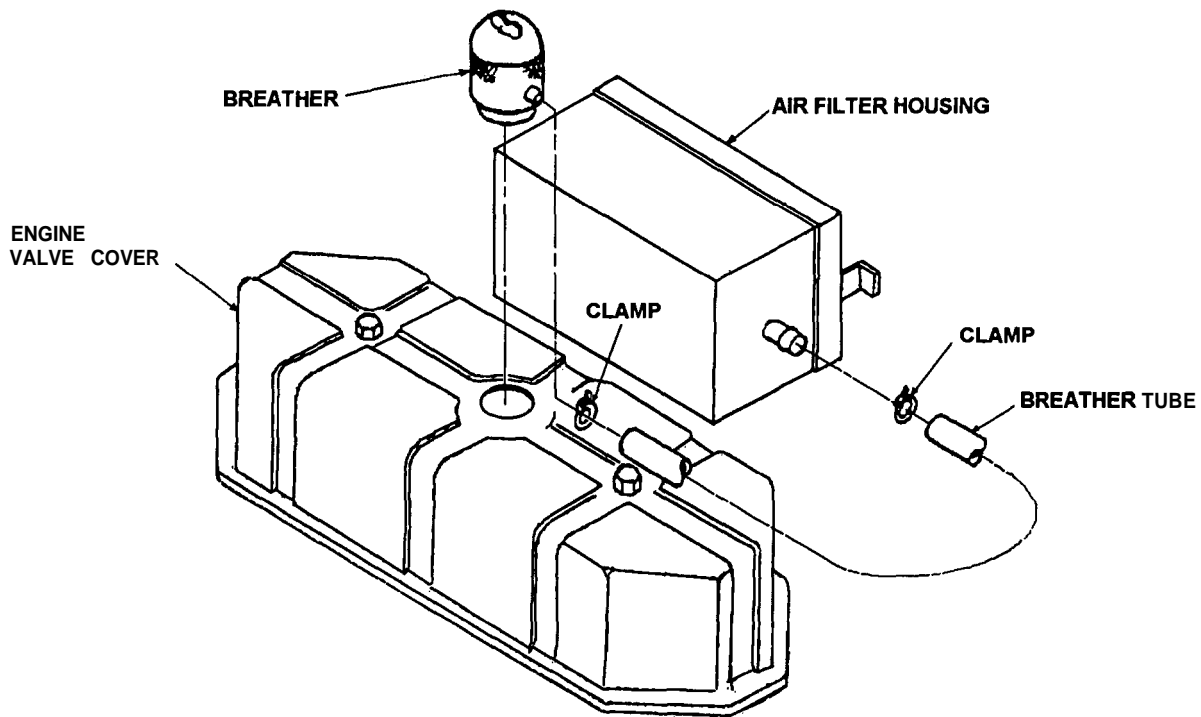
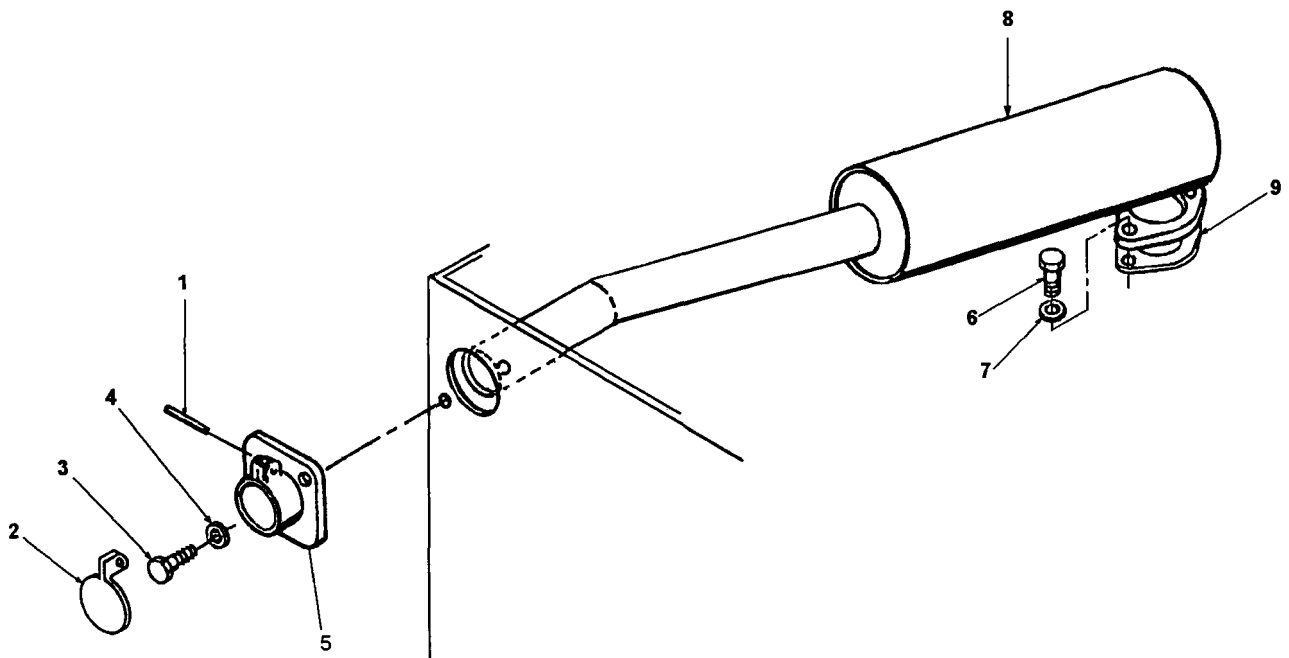

Figure 3-1. Inspecting the Breather and Breather Tube
Figure 3-2. Inspecting the Muffler
**3-6 BREATHING TUBE, EXHAUST PIPE AND MUFFLER (Figure 3-1 and Figure 3-2).**